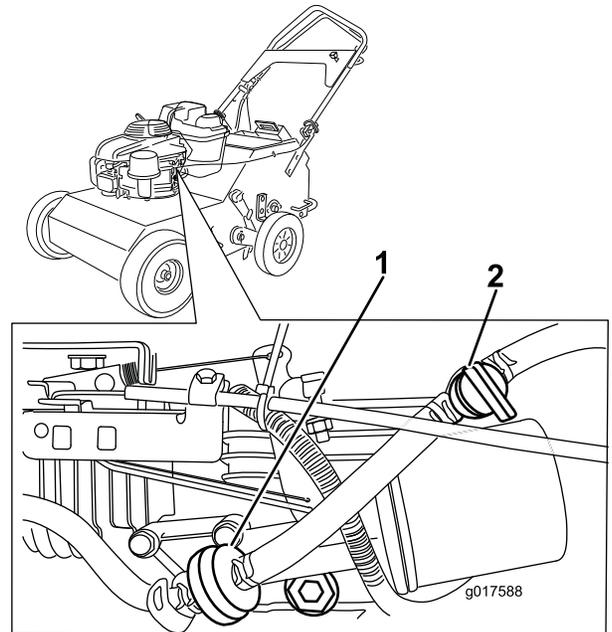

Figure 30
4. Clamp off the fuel line on either side of the fuel filter (Figure 30) to prevent fuel from leaking out when you remove the filter.
5. Squeeze the ends of the hose clamps together and slide them away from the filter (Figure 30).
7. Install a new filter and move the hose clamps close to the filter (Figure 30).